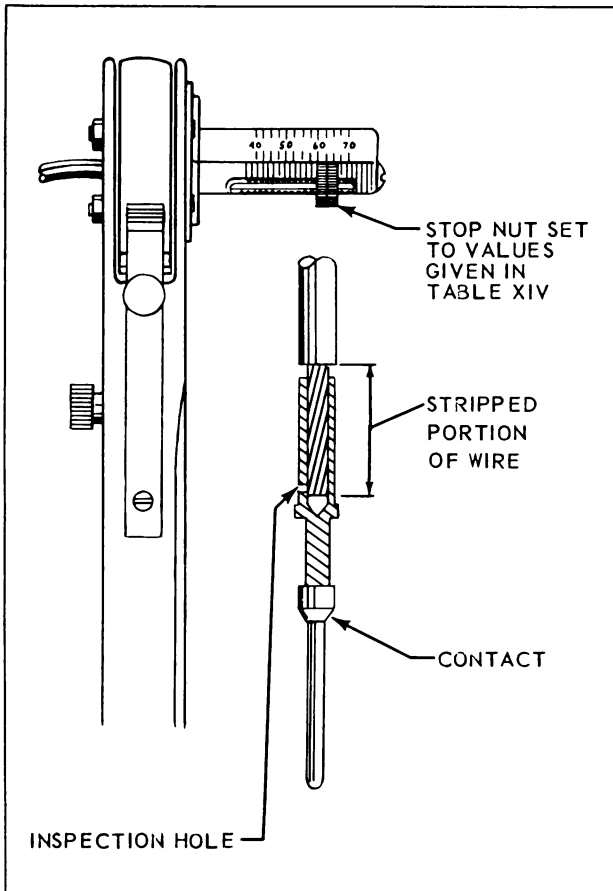

Figure 3-56. Adjustment of Bendix Scintilla 11-3284-1 Crimping Tool for Contact Length
2. Set knurled positioning stop nut to match contact size. See Table XXIII for settings. This positioning will insure locating crimp at 3/32 inch from end of conductor well portion of contact. See Figure 3-56.